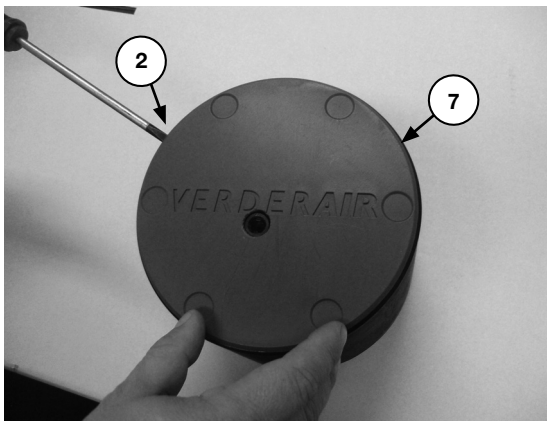

Figure 1
Remove the cover (7) by pushing gently a screw driver in the recess of the air section (2) (see figure 1)